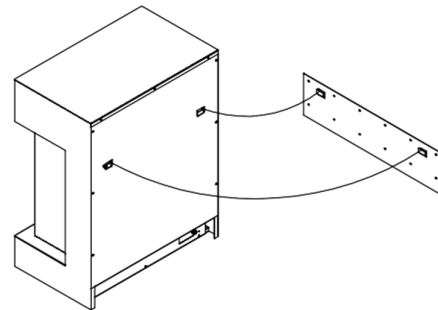

Fig. 2
4. Take out the hanger from the fireplace by unscrew the screw (Fig.2).